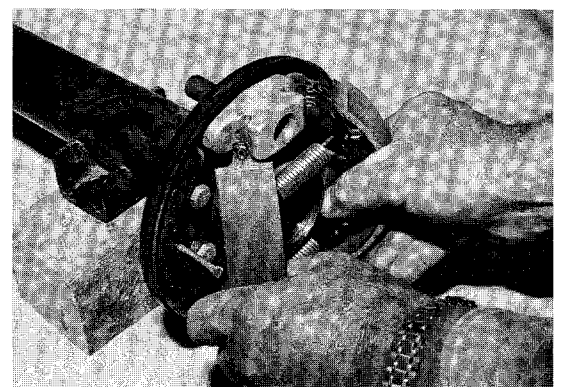

Figure 13-13
4. Remove shoes and springs as a unit by securely holding one shoe and pulling the opposite shoe out of the grooves in the actuator (Figure 13-13).